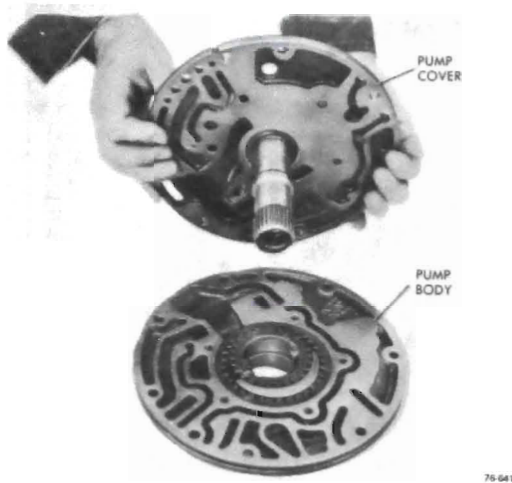

Figure 76-640
9. Assembly pump cover to pump body. See Figure 76-640.